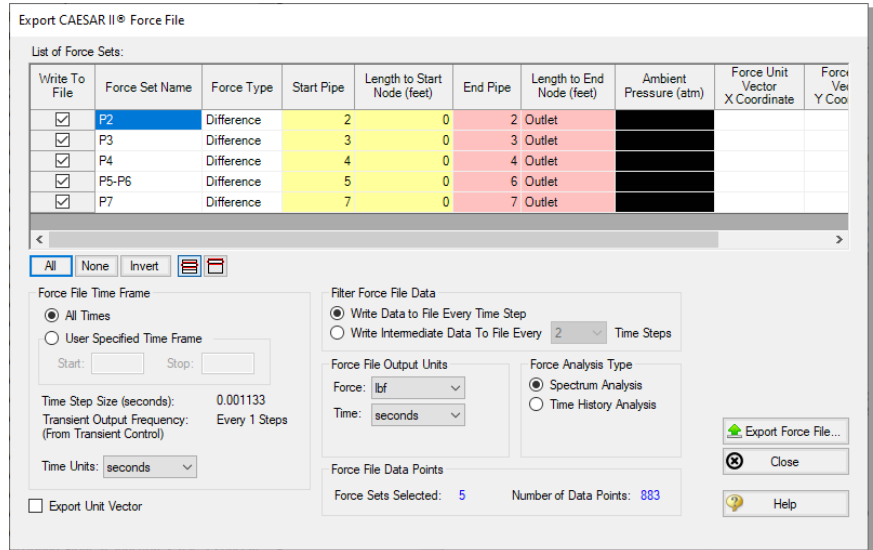

Figure 5.18 Export CAESAR II® Force File window
- **Open the Output window, and click on the File menu.** Select "Export Force File..." and choose "CAESAR II® Force File." This will open the export file window shown in Figure 5.18.